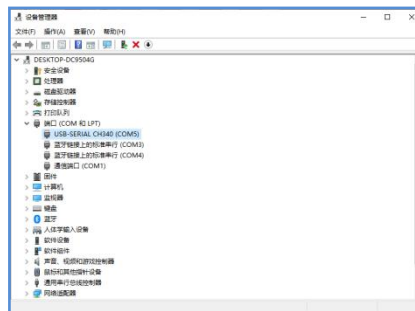

Figure 2-7-7
- Step 1: Right-click Computer-Properties-Device Manager-Observe the serial port assigned by the computer. The computer serial port allocation interface is shown in Figure 2-7-7 below.